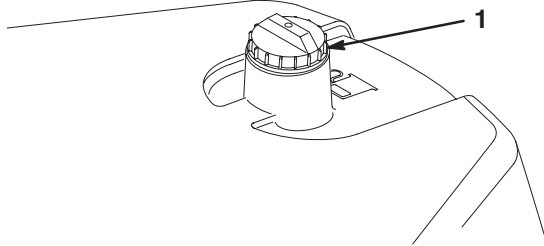

Figure 25
1. Clean the area around the fuel tank cap (Fig. 25).